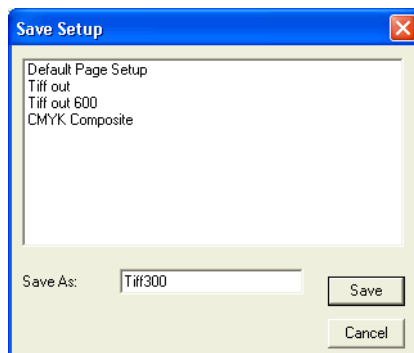

Figure 3.6 Save Setup dialog box
4. The Save Setup dialog box appears, and you can specify a name for your new Page Setup in the **Save As** text field. (See Figure 3.6.) Click **Save** to save the setup and return to the Page Setup Manager dialog box.